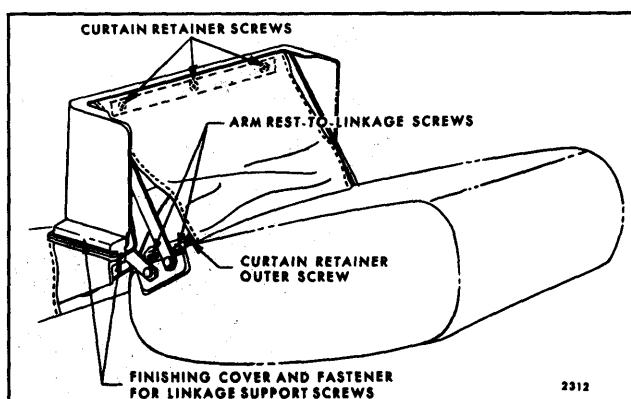

Fig. 15-26—Front Seat Center Arm Rest (Notch Down Seat Back)
2. Carefully pull curtain back sufficiently to remove screws securing center arm rest to support linkage and loosen outer screws securing curtain retainer to arm rest (Fig. 15-26).
3. Remove screw finishing covers (Fig. 15-26). Disengage arm rest from support linkage and turn arm rest upside down on trim panel finishing cover with curtain retainer to trim panel finishing cover (Fig. 15-26); then, remove arm rest and curtain from seat.
2. Working between arm rest and seat back, remove fastener at both sides of arm rest securing front end of screw finishing covers (Fig. 15-26).